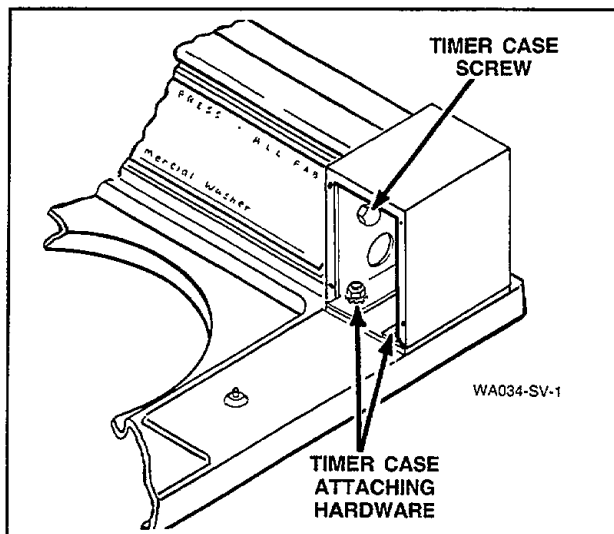

Figure 12
- Remove cap screw, lockwashers and nut holding timer case to control hood, *Figure 12*.